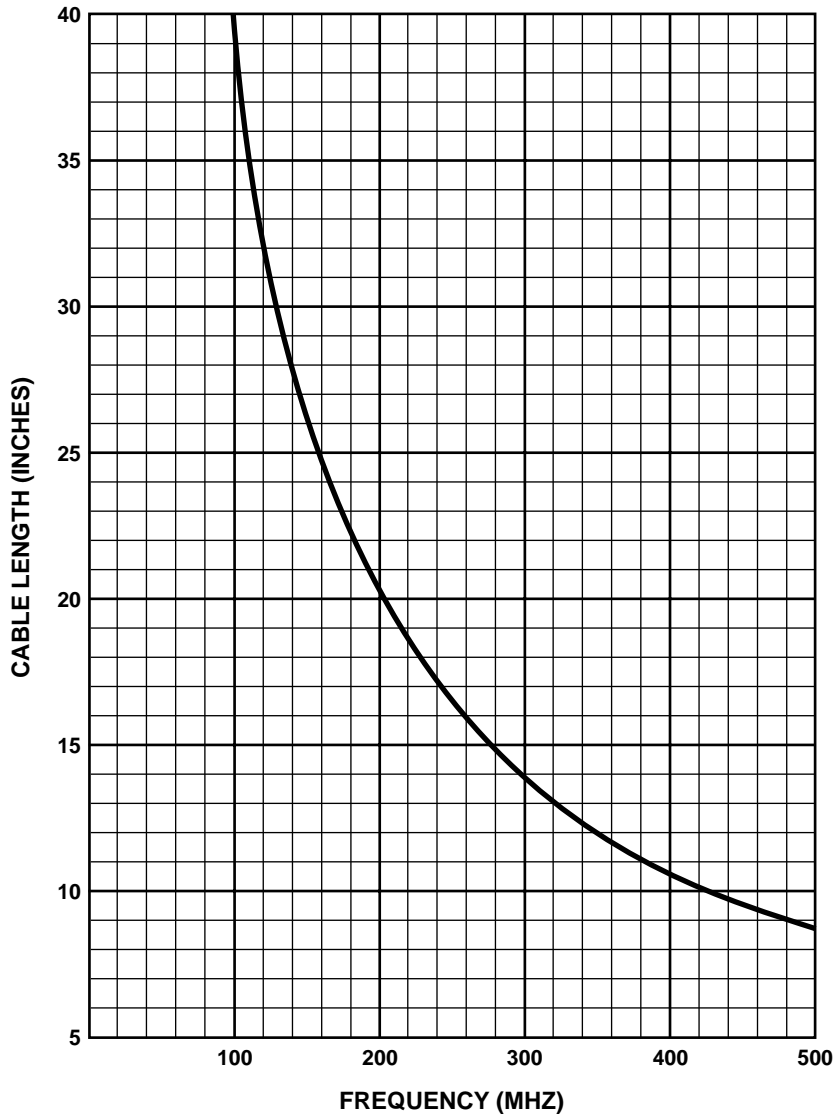

Figure 7-3: One Half Wavelength Coaxial Line
- 5.09** The chart shown in Figure 7-3 shows the required length (including connectors) of RG-213/U cable to act as a 1/2 wave line section at frequencies from 100-500 MHz.
7.04 Figure 7-3 shows a chart for a 1/2 wavelength coaxial jumper to be used inline with the Model 44A/AP Wattmeter to minimize measurement errors in RF systems with high VSWR. The chart shows lengths for an RG-213 50 ohm jumper cable, including connectors.